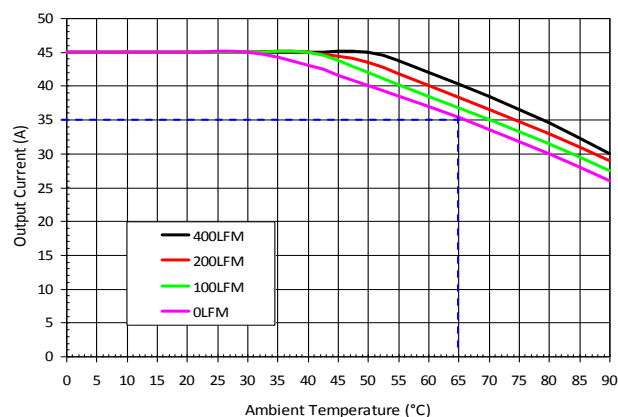

Figure 10: Safe Operating Area, $T_{CASE} \leq 125^{\circ}C$
Figure 10 shows the IR3558 safe operating area with the case temperature controlled at or below $125^{\circ}C$. The test conditions are $V_{IN}=12V$, $V_{OUT}=1.2V$, $f_{SW}=400kHz$, $L=150nH$ (0.29mΩ), HVCC=LVCC=7V, $T_{AMBIENT} = 0^{\circ}C$ to $90^{\circ}C$, no heat sink, and Airflow = 0LFM / 100LFM / 200LFM / 400LFM.
If any of the application condition, i.e. input voltage, output voltage, switching frequency, HVCC/LVCC MOSFET driver voltage, or inductance is different from those of Figure 10, a set of IR3558 case temperature adjustment curves should be used. Obtain the temperature deltas from Figures 11-15 for the new application conditions; sum these deltas and then subtract from the IR3558 case temperature obtained from Figure 10 for the required load current.
- 8) From Figure 10, determine the highest ambient temperature at the required load current under the default conditions, which is $65^{\circ}C$ at 35A with 0LFM airflow and the IR3558 case temperature of $125^{\circ}C$.